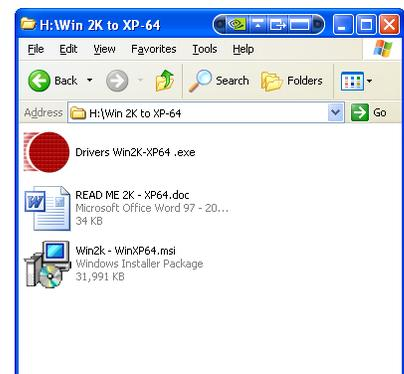

Figure 3. MIDG Series INS/GPS Installation Programs (Win 2k to Win XP-64)
2. **Open the folder which contains the specified version of Windows®.** Figure 3 shows the contents of the opened folder. The selected folder will contain three (3) files: (Win-2K to XP-64 used as an example)